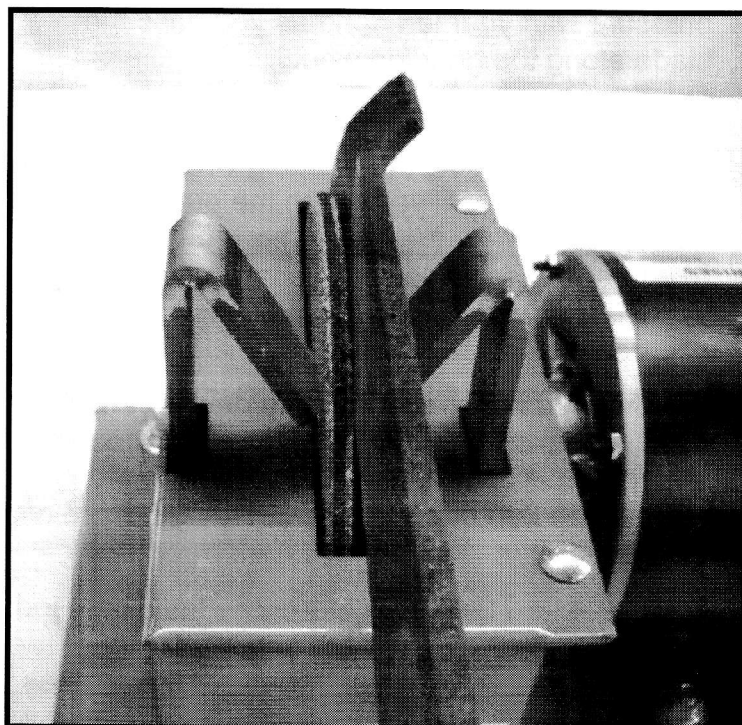

Figure 2: Prepare Blade
- 1) Check your blade to ensure that the underside of the sharpened area is flat. If it is not you will need to remove any nicks or damage caused by hitting rocks and debris to ensure smooth travel along the blade guide and maintain the life of your wheel. To do so rest the area to be sharpened against the right Blade Guide as in Figure 2 so that the bottom of the blade is parallel to the grinding wheel.